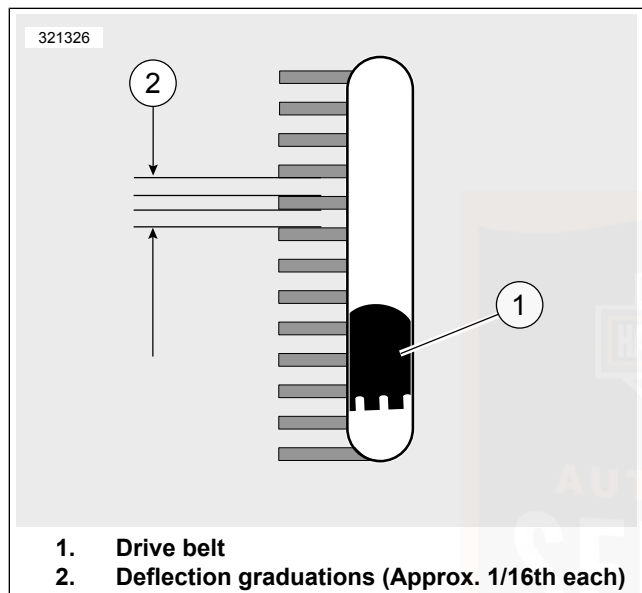
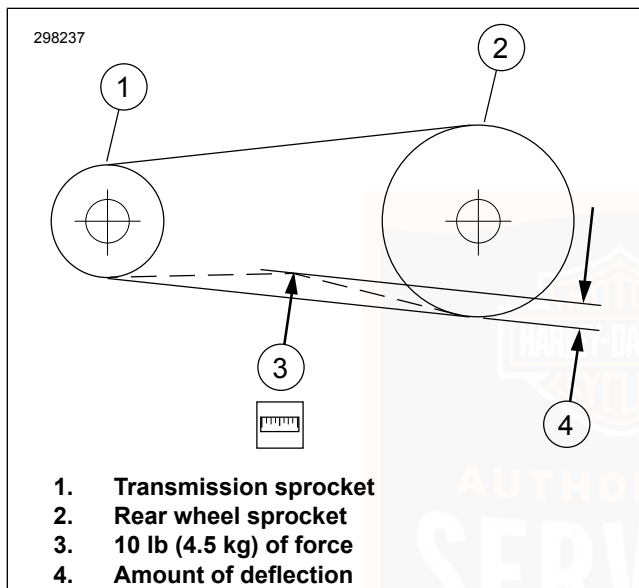

Figure 65. Belt Deflection Window
Figure 67. Checking Belt Deflection
- a. Slide o-ring (4) to zero mark (3).
- b. Fit belt cradle (2) against bottom of drive belt in line with belt deflection window.
- c. Press upward on knob (6) until o-ring slides down to 10 lb (4.54 kg) mark (5) and hold steady.
3. See Figure 65. Measure belt deflection as viewed as viewed through belt deflection viewing window while holding gauge steady. Each deflection graduation is approximately 1.6 mm (1/16 in)
- c. Press upward on knob (6) until O-ring slides down to 10 lb (4.54 kg) mark (5) and hold steady.
4. See Figure 67. Measure amount of deflection (4) while holding gauge steady.